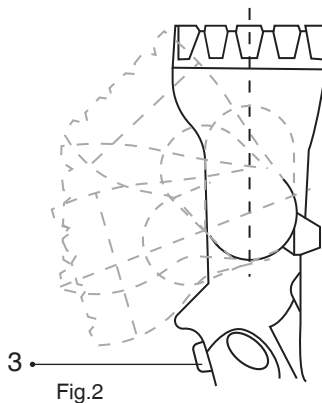

Fig.2
LIGHTING UP THE BULB (FIG. 2)
■ HEAD ANGLE (FIG. 2)